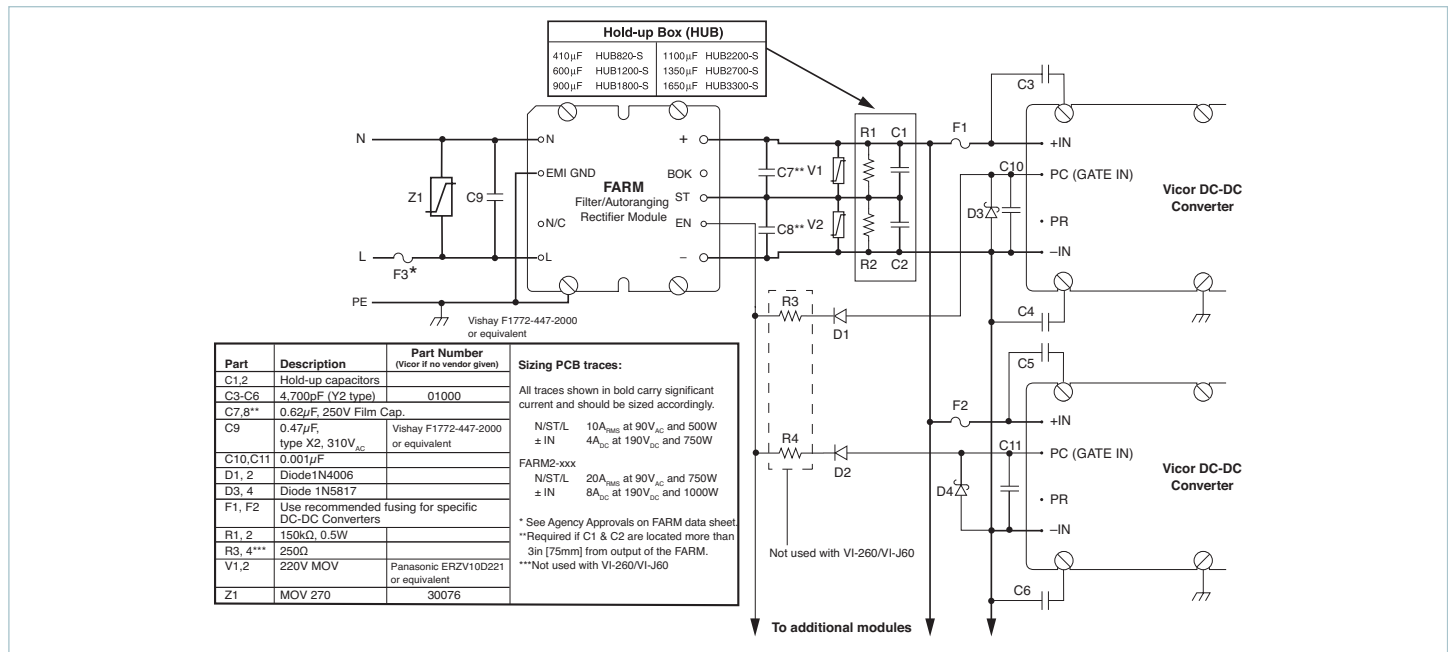

Figure 8.3 — Offline power supply configuration
Strap (ST) Pin: In addition to input and output power pin connections, it is necessary to connect the strap pin to the center junction of the series hold-up capacitors (C1, C2, Figure 8.3) for proper (autoranging) operation. Metal-oxide varistors, V1 and V2 provide capacitor protection. The bleeder resistors (R1, R2, Figure 8.3) discharge the hold-up capacitors when power is switched off. Capacitors C7 and C8 are recommended if the hold-up capacitors are located more than 3in [75mm] from the FARM output pins.
It should be noted that the series combination (C_1, C_2 , Figure 8.3) requires each capacitor to be twice the calculated value, but the required voltage rating of each capacitor is reduced to 200V. Allowable ripple voltage on the bus (or ripple current in the capacitors) may define the capacitance requirement. Consideration should be given to converter ripple rejection and resulting output ripple voltage.